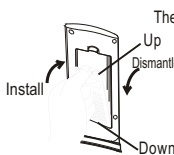

Figure 1
- 1.Push down the spring piece of the top lint filter to make the claws out of the filter cover, and then pull out the lint filter to get it down. (figure1)